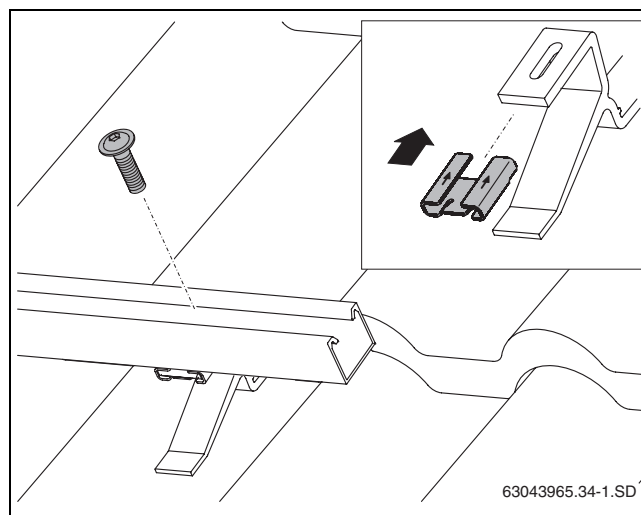

Fig. 30 Fastening profile rails to the roof hook
- ▶ Push sliding nut (Fig. 30, [1]) onto the roof hook in the direction of the arrow.
- ▶ Place the lower profile rails (Fig. 30, [2]) onto the roof hooks and loosely fasten M8 bolt (Fig. 30, [3]) so that the profile rails can still be aligned.